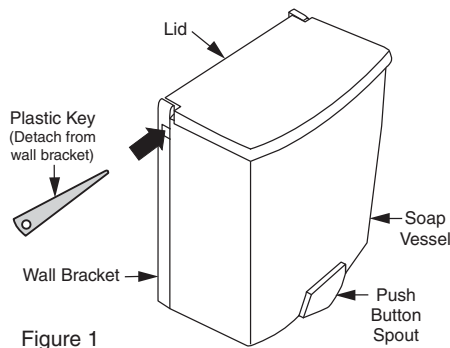

Figure 1
- Using the plastic key, push the concealed sliding latch as shown in Figure 1. The lid will automatically pop forward.